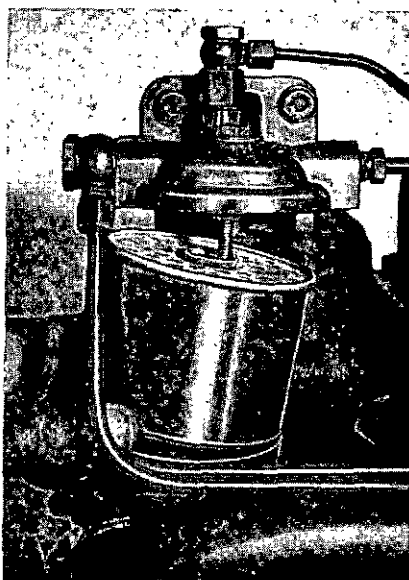

Fig. 18.
- (b) Lower filter bottom cover clear (see Fig. 18)